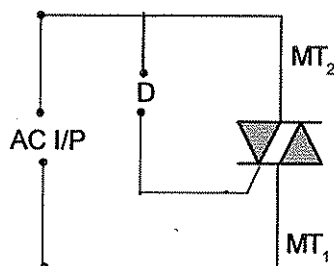

fig. 1
5. Name the device D in the following fig. 1
6. Referring above fig. 1 state whether the device D is used for A.C. or D.C.